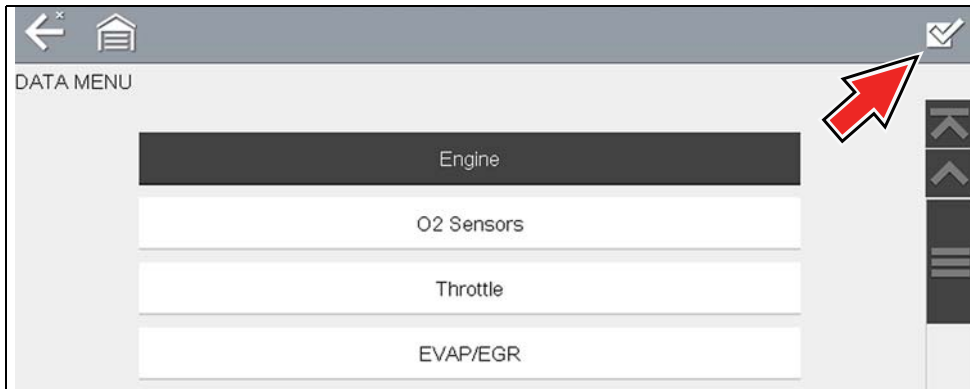

Figure 5-16
1. From the Data Menu select the **Custom List** icon on the toolbar (Figure 5-16). The Custom List icon allows you to start a custom list directly from the Data Menu.